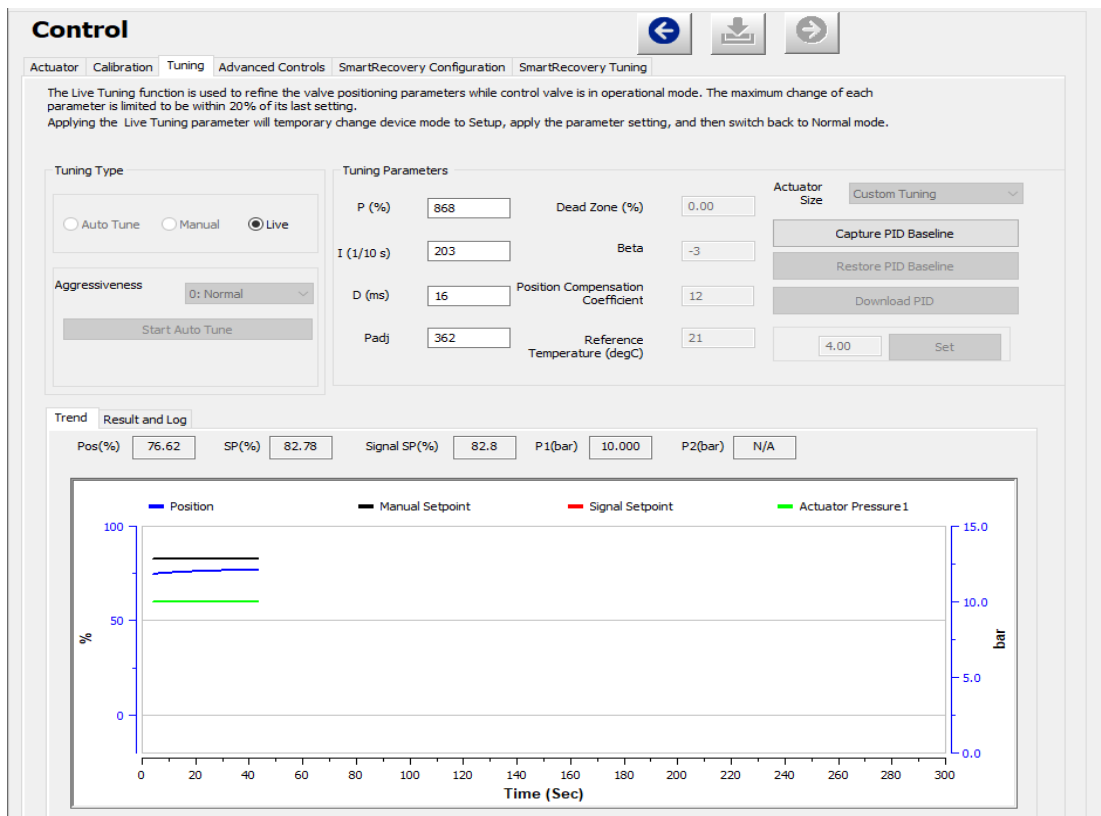

Figure 60 - Live Tuning Selected
1. Click the **Live** radio button and Figure 60 appears.